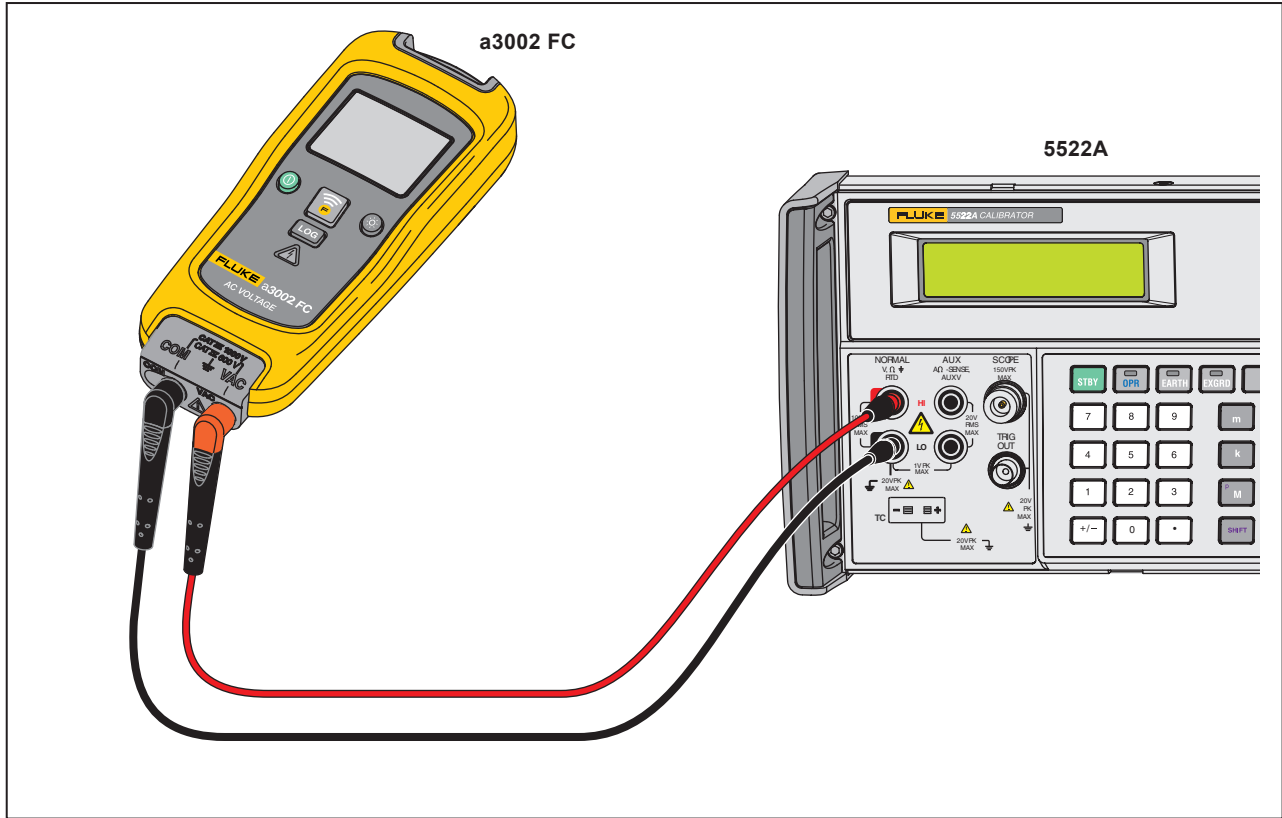

Figure 2. Performance Test and Calibration Connections
1. Connect the Calibrator volts output and ground to the Product. See Figure 2.